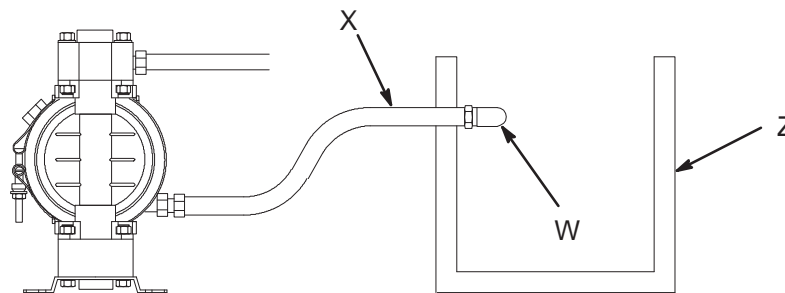

Fig. 6
Diaphragm failure will cause the fluid being pumped to exhaust with the air. Place an appropriate container at the end of the air exhaust line to catch the fluid. See FIG. 6.
1. Remove the muffler (W) from the pump air exhaust port.
2. Install an electrically conductive air exhaust hose (X) and connect the muffler to the other end of the hose. The minimum size for the air exhaust hose is 3/8 in. (10 mm) ID. If a hose longer than 15 ft (4.57 m) is required, use a larger diameter hose. Avoid sharp bends or kinks in the hose.
3. Place a container (Z) at the end of the air exhaust line to catch fluid in case a diaphragm ruptures. See FIG. 6.